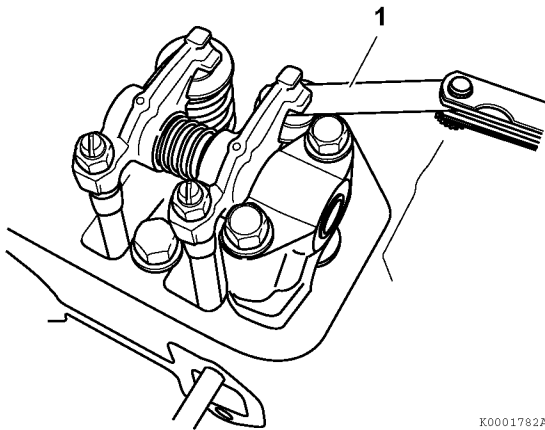

Figure 6-35
3. Insert a feeler gauge (**Figure 6-35, (1)**) between rocker arm and valve cap and record the measured valve clearance. (Use the data for estimating wear.)